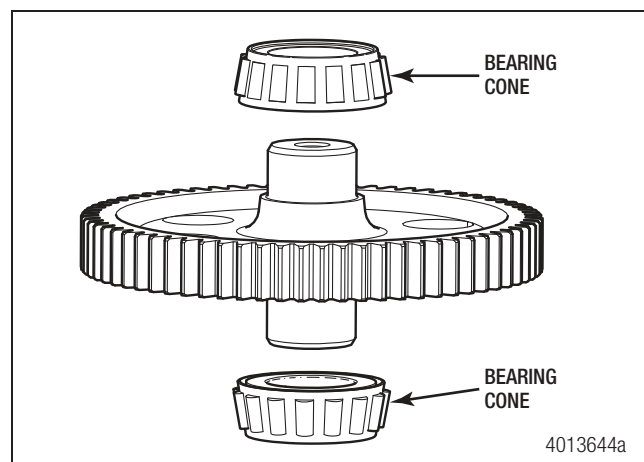

Figure 6.24
2. Place the bearing cone onto the end of the shaft assembly with the appropriate end facing UP. Use driver #3 and a press to push the bearing cone DOWN until it is fully seated. Refer to "Tools" on page 60 for a tool drawing. Only press on the inner race of the bearing cone. Ensure the bearing cone is correctly seated. Figure 6.24.